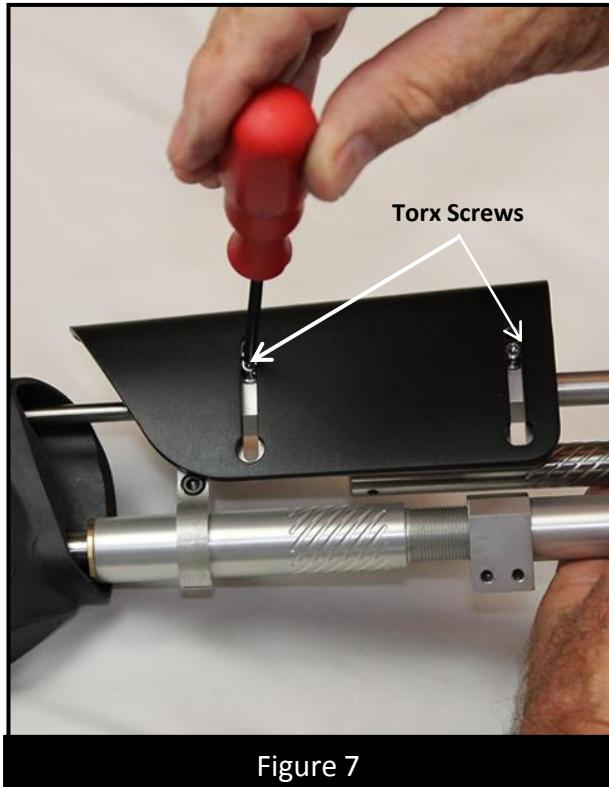

Figure 7
1. Loosen both of the Torx comb screws [Ident. I] with the provided Torx tool. (*Figure 7*)